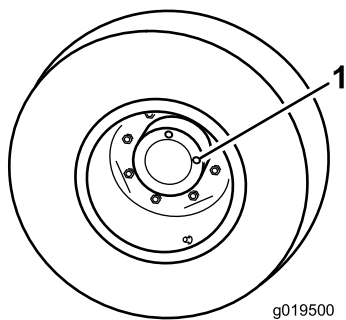

Figure 16
1. With machine on level surface, position the wheel so 1 check plug is at the 12 o'clock position and the other is at 3 o'clock position (Figure 16).
1. Check/drain plug (2)
2. Remove the plug at the 3 o'clock position (Figure 16).